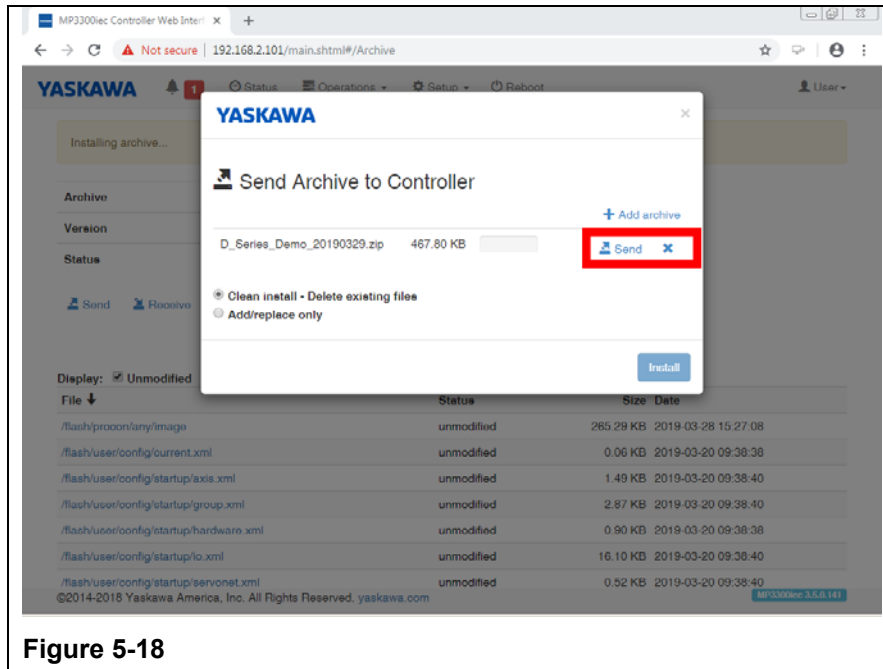

Figure 5-18
- v. Select the "Send" option, located on the right-hand side of the 'Send Archive to Controller' dialog box. (Refer to Figure 5-18)